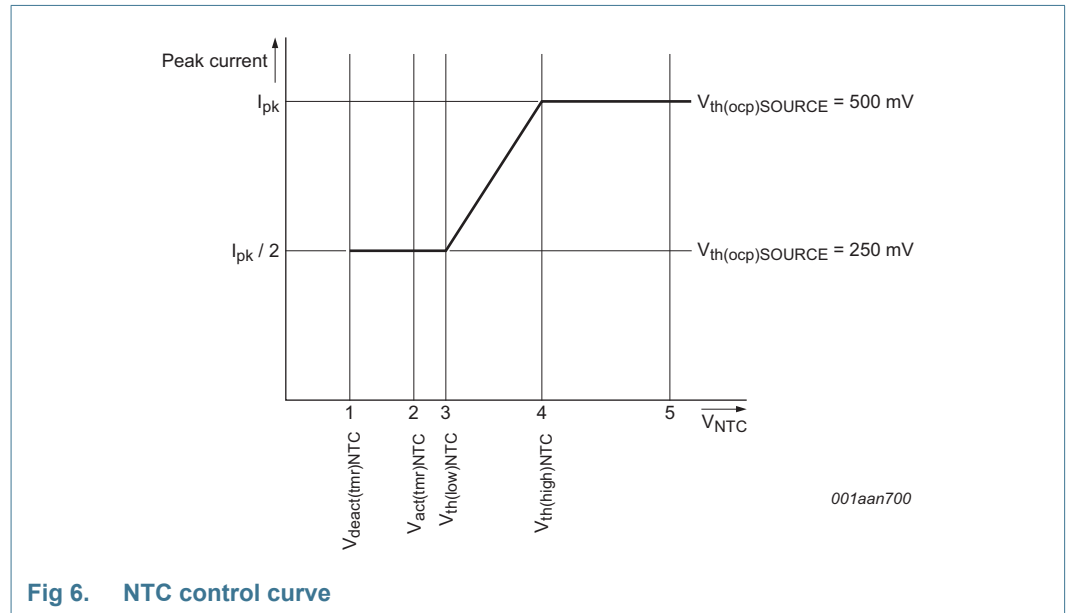

Fig 6. NTC control curve
The NTC pin can be used as a control method for LED thermal protection. Alternatively, the pin can be used as an input to disable/enable light output using a digital signal (PWM dimming). The pin has an internal current source that generates the current of $I_{offset(NTC)}$. An NTC resistor to monitor the LED temperature can be directly connected to the NTC pin. Depending on the resistance value and the corresponding voltage on the NTC pin, the converter reacts as shown in Figure 6.
When the voltage on the NTC pin exceeds $V_{th(high)NTC}$ (see Figure 6 \(4\)), the converter delivers nominal output current. When the voltage is lower than this level, the peak current is gradually reduced until $V_{th(low)NTC}$ is reached (see Figure 6 \(3\)). The peak current is now half the peak current of nominal operation. When $V_{act(tmr)NTC}$ is passed (see Figure 6 \(2\)) a timer starts to run to distinguish between the following situations:
- If the low-level $V_{deact(tmr)NTC}$ is not reached within time $t_{to(deact)NTC}$ (see Figure 6 \(1\)) LED overtemperature is detected. The IC stops switching and attempts to restart from the HV pin voltage. The converter restarts from an NTC protection shutdown when the voltage on the NTC pin exceeds $V_{th(high)NTC}$ (see Figure 6 \(4\)). It is assumed that the reduction in peak current does not result in a lower NTC temperature and LED OTP is activated.
- If the low-level $V_{deact(tmr)NTC}$ is reached within the time $t_{to(deact)NTC}$ (see Figure 6 \(1\)) it is assumed that the pin is pulled down externally. The restart function is not triggered. Instead, the output current is reduced to zero. PWM dimming can be implemented this way. The output current rises again when the voltage is higher than $V_{th(low)NTC}$.
The NTC pin can be used to make a soft start function. During switch-on, the level on the NTC pin is low. By connecting a capacitor (in parallel with the NTC resistor), a time constant can be defined. The time constant causes the level on the NTC pin to increase slowly. When passing level $V_{th(low)NTC}$ (see Figure 6 \(3\)), the convertor starts with half of the maximum current. The output current slowly increases to maximum when $V_{th(high)NTC}$ (see Figure 6 \(4\)) is reached.